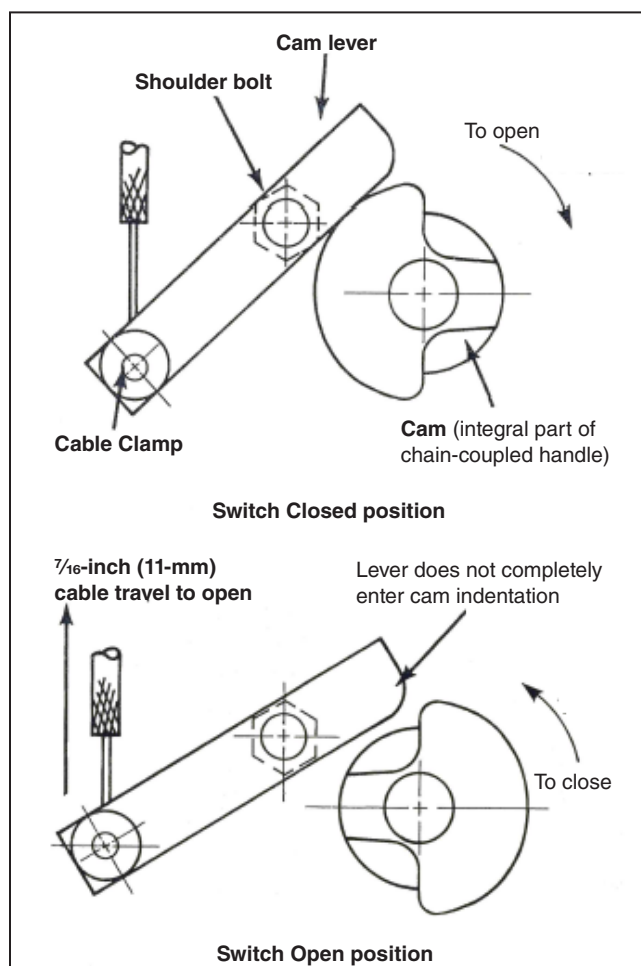

Figure 7. Cam lever relationship for the chain-coupled handle.
- On the side of the operating-handle housing (opposite the handle itself) are two hex-head screws accessible from inside the housing. Remove and discard the top screw. Attach the cam lever to the inside of the housing with the shoulder bolt inserted in the vacated hole. Position the cam lever so its rounded corner is toward the cam (the cam is an integral part of the chain-coupled handle). See Figure 7.